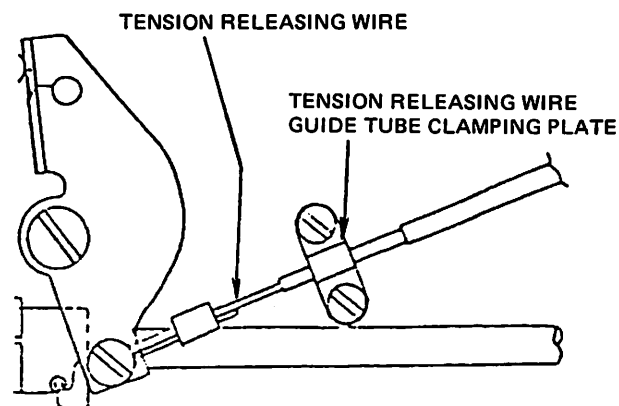

Fig. 33
2. Loosen the two screws holding the tension releasing wire guide tube clamping plate and move guide tube to the left or right as required and firmly tighten the screws. (Fig. 33)